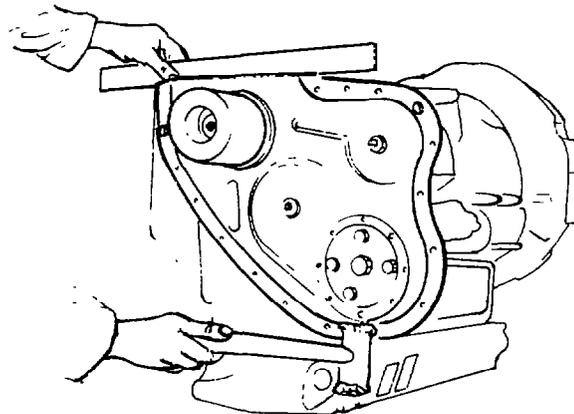

Fig. 88 — Aligning Timing Case Cover
e. Tap the cover lightly with a nylon headed hammer and using a straight edge, align the cover with the sump rail (see fig. 88).